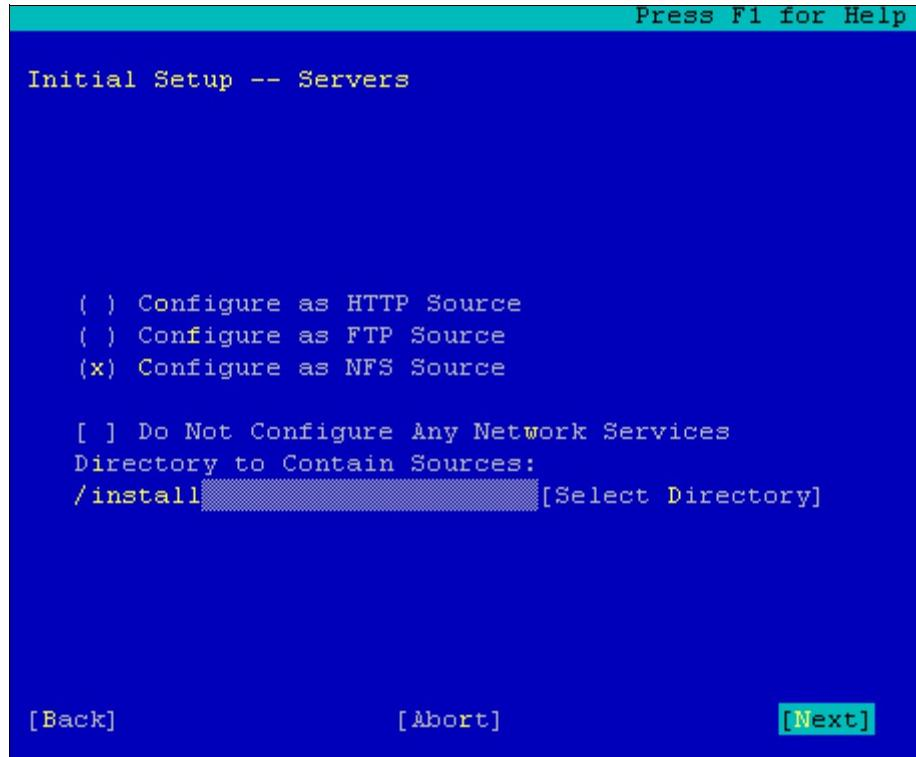

Figure C-2 Initial setup of SLES NFS installation server
3. Select **Configure as NFS Source** and enter the desired location source location directory. This example uses `/install` as shown in Figure C-2 on page 542.